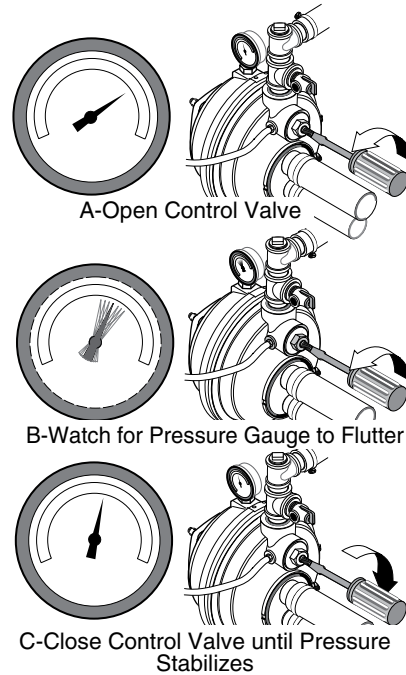

Figure 15 – Set Control Valve
5. When pressure has built up and stabilized at about 50 psi, slowly open the control valve (See Figure 15) and let the pressure drop until the pressure gauge needle starts to flutter. When the needle flutters, close the valve just enough to stop the flutter (See Figure 15). Your pump is now operating at its most efficient point.